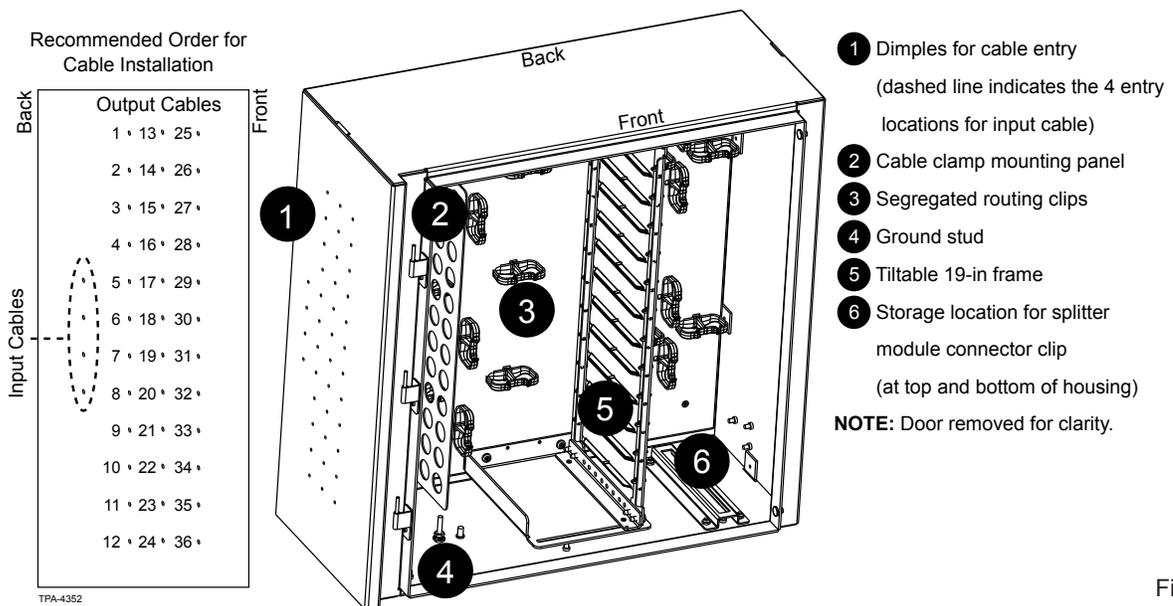

Figure 1
The unit (Figure 1) is 21-in wide by 21-in long by 9-in deep.
There are 40 dimples on the hinged side of the cabinet wall; only 36 are needed for distribution cables. The four dimples on the first vertical row are the input locations (see Figure 1). All dimples are centered on holes in the cable clamp mounting bracket inside the cabinet. Cables should be installed beginning at the back wall toward the front of the unit as shown in Figure 1.
Step 1: Using the dimples shown in Figure 1, punch or drill a $\frac{31}{64}$ -in diameter hole for each cable entry. Punch or drill all the holes that will be needed for the initial installation before mounting any cables.
- Step 3:** Mate splitter output fibers in connector adapters to provide service to each customer. The fibers can be mated at the time of the cabinet's installation or stored in the parking panel (seen in Figure 1 and Figure 23) and mated later as new service is required. Ensure dust caps remain on the output connectors until they need to be connected. It is not necessary to turn off feeder power for this procedure.